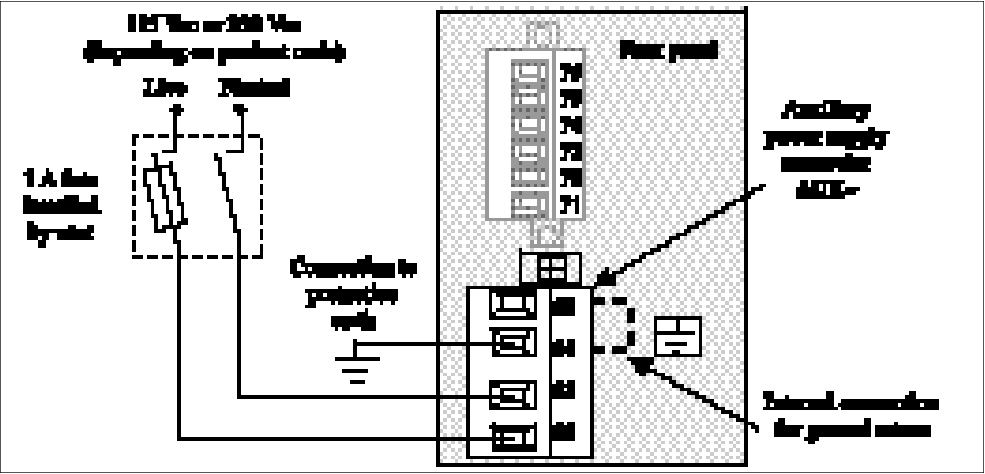

Figure 2-5 Protective earth and auxiliary supply wiring
The **protective earth** is connected to terminal **64 (PE)** as shown on figure 2-5.
The unit's power supply should be connected to the **AUX~** terminal block as shown on figure 2-5.